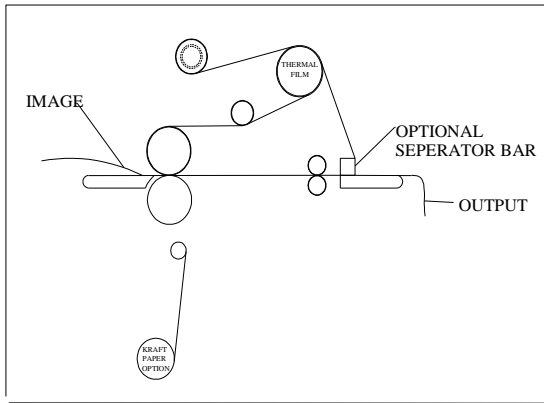

Fig. 21
1. Load the laminator as illustrated in Fig.21.